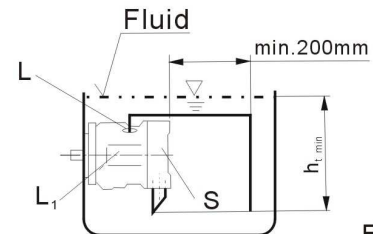

Fig.3
a) If the minimum fluid level is above the top of the pump, port "L₁" closed, "L" and "S" should remain open, L piped and recommendation S piped (see Fig.3)